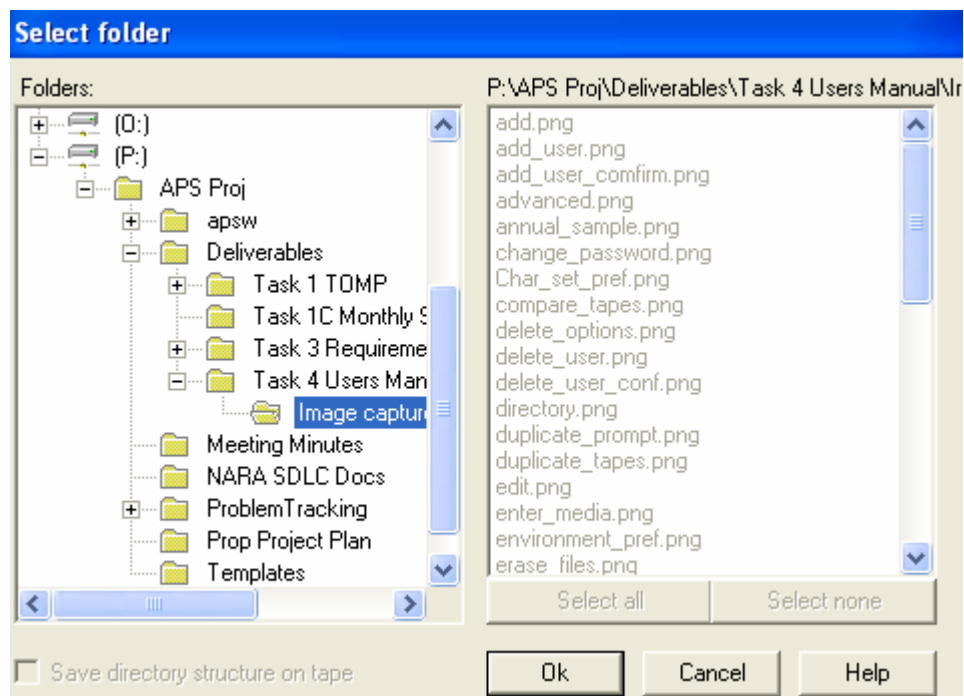

Figure 128: Directory Selection Box
6. Press Directory to compare the current metadata fields (template) against all image files in a directory. The Directory Selection box is displayed in Figure 128: Directory Selection Box. A report will be generated and displayed on the form. If a metadata value for an image file is identical to the template that metadata value will not be printed. If the value is different it will be printed.